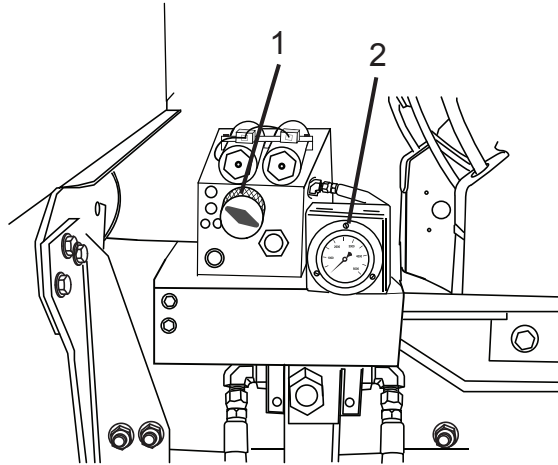

Figure 51
4. Once the pressure requirements have been determined, use the PRV knob (Figure 51, Item 1) to adjust the pressure to the required pressure. Pressure will be displayed on the gauge (Figure 51, Item 2).